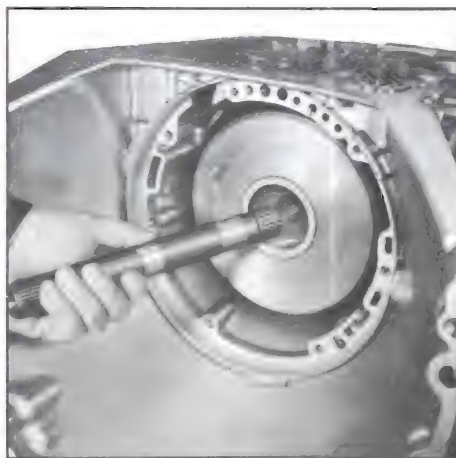

Figure 5-540
6. Remove turbine shaft from transmission. See Figure 5-540.